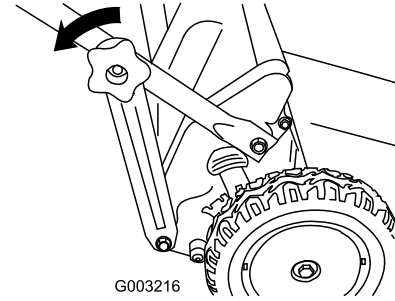

Figure 42
1. Remove the lower handle knobs and detach the lower handle brackets from the lower end of both handle sides (Figure 42).